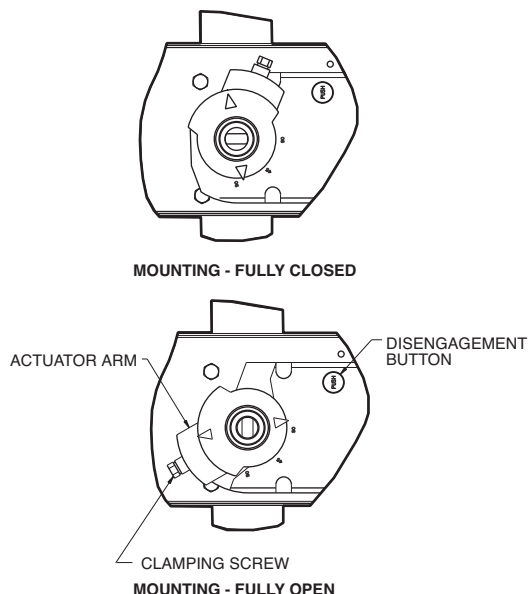

Fig. 41 — Ball Valve Motor
See Fig. 41 for a view of the ball valve motor mounting with a fully open valve. The motor actuator arm should be at a counterclockwise position, with the valve shaft in a parallel position. If not in a parallel position, loosen the clamping screw and push the disengagement button to rotate the actuator arm until it stops. Retighten the clamping screw.
2. With the compressor off hold down the Disengagement button. See Fig. 41.